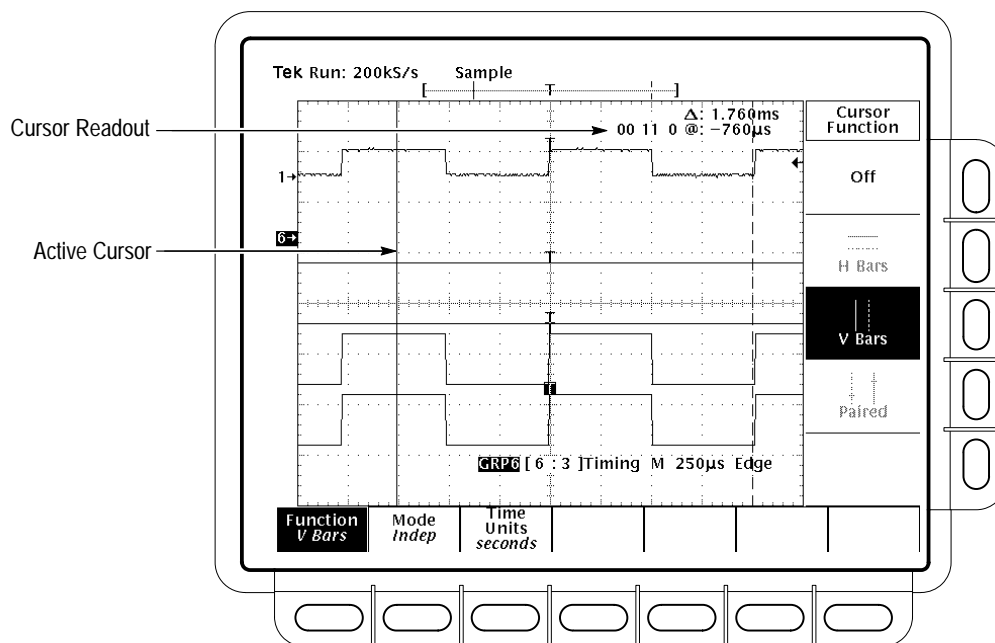

Figure 1-16: Binary Value of a Group
4. Read the binary value of all acquired waveforms in the cursor readout (see Figure 1-16). The most significant bit (left-most bit in the readout) corresponds to the highest numbered channel currently acquired.